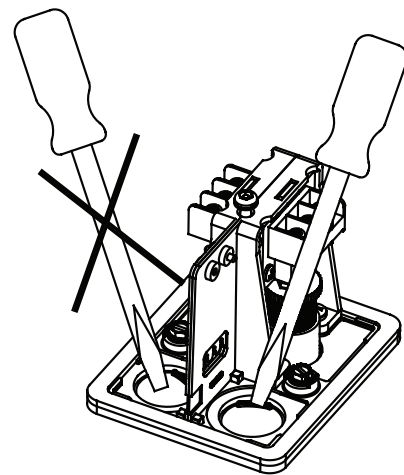

Fig.9
2. Carefully place a screwdriver on the edge of the knockout and sharply apply a force sufficient to dislodge the knockout plug. See Fig. 9